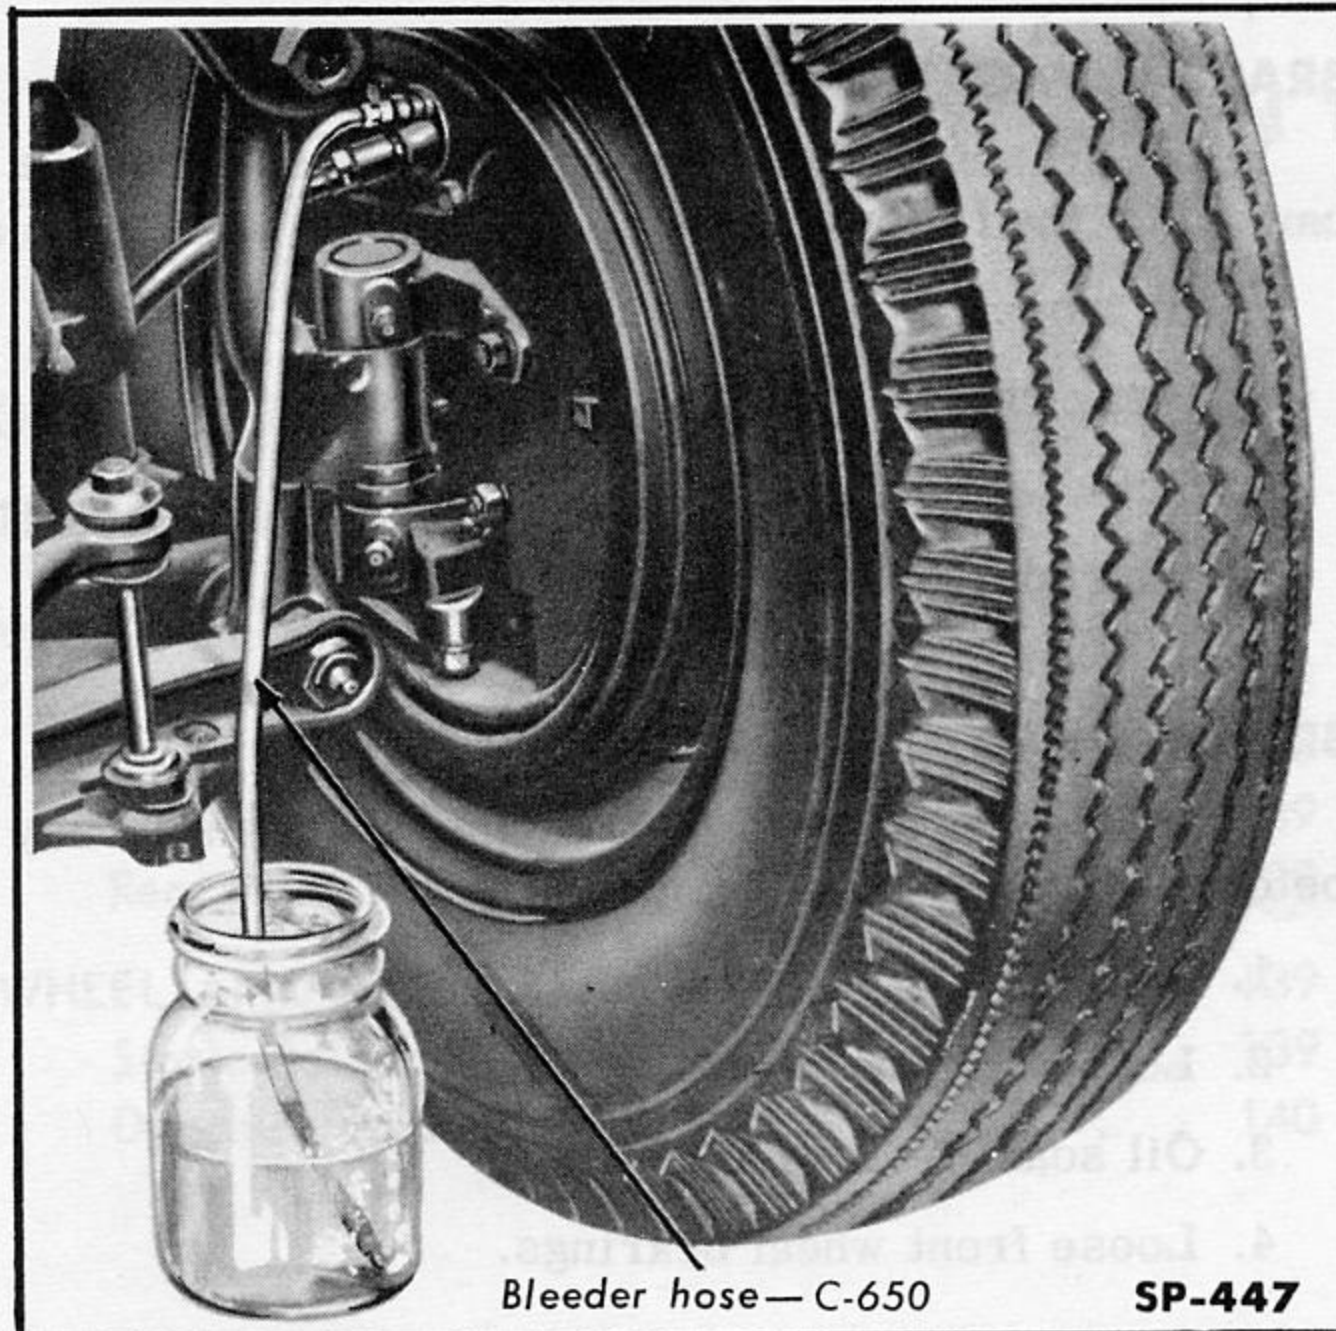

Fig. 210—Bleeding Hydraulic System at Wheel Cylinder
3. Attach one end of Brake Bleeder Hose C-650 to wheel cylinder bleeder valve (Fig. 210). Place opposite end in a glass container partially filled with hydraulic fluid so end of hose is submerged.